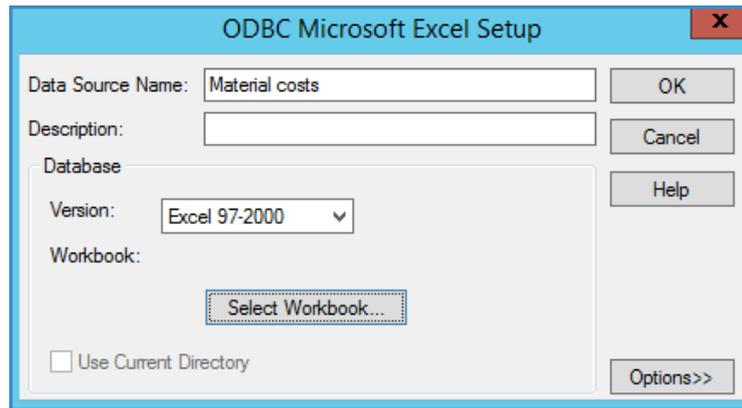

Fig. 36. Selecting the data source
- **Select Workbook ...** – use this button to select a file (Fig. 36).